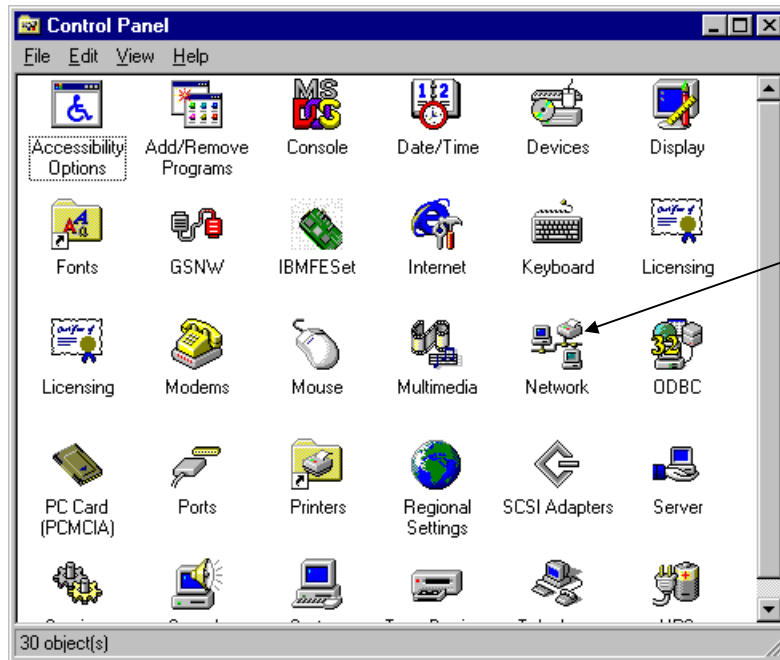

Figure 3-5. Network ICON on Control Panel
1. From the Windows NT Server Control Panel, open Network (Figure 3-5).